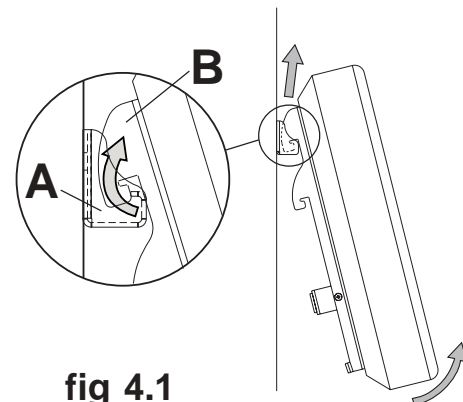

fig 4.1
- 4 To remove screen from mount, slowly swing bottom of screen away from wall and slightly push top of screen toward wall to disengage hooks on vertical brackets (B) from wall plate (A). Lift screen off of wall plate as shown in figure 4.1.